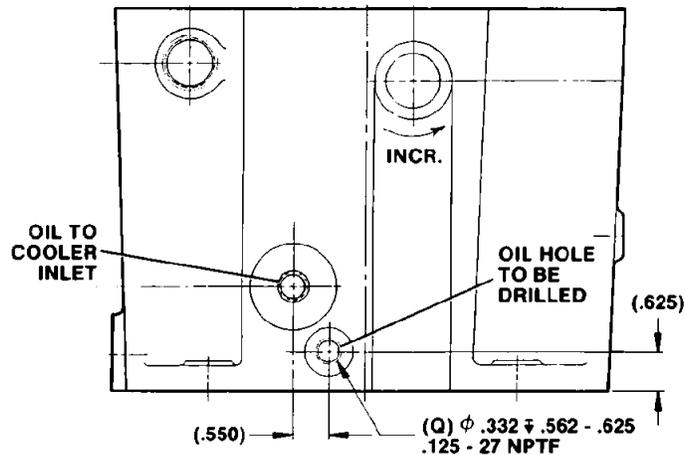

Figure 3-1. Correct Location of Oil Hole
3. An oil hole must be drilled in the governor case to connect oil line (25) to the governor case with elbow (29), as shown in Figure 6-1. For correct oil hole location, see Figure 3-1.